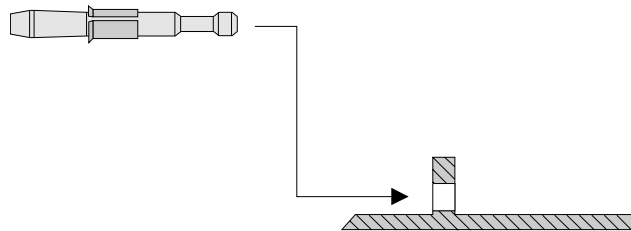

Figure 12
7. Select and install sleeve on mandrel with flare away from nose cap. Insert mandrel and sleeve into hole as shown. (Figure 12)